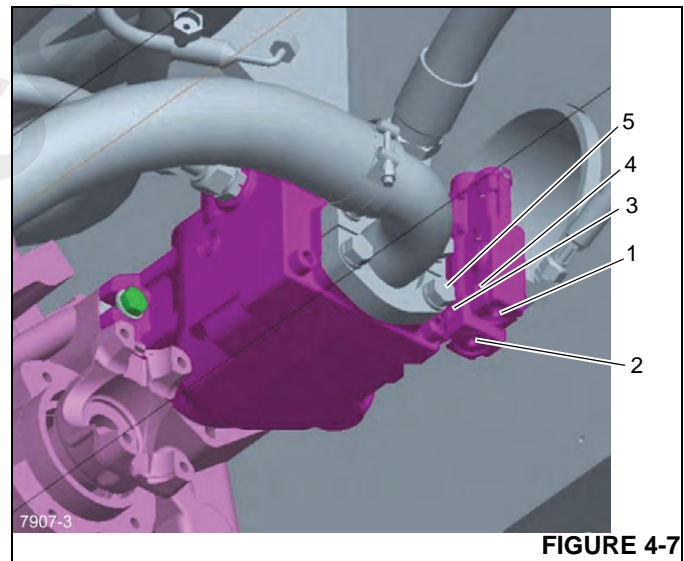

FIGURE 4-7
4. Disconnect the hydraulic hose from bulkhead elbow Figure 4-7 which connects to the rod port of the telescope cylinder. A little oil will drain from the elbow.
4. If pressure is incorrect, loosen the margin set screw from the pump compensator valve (4, Figure 4-7). A 4 mm hex wrench is required for the set screw.
5. Adjust the margin pressure setting by turning the margin adjusting screw (1, Figure 4-7) until  $24.13 \pm 0.35$  bar ( $350 \pm 5$  psi) pressure is obtained on the gauge; clockwise increases pressure, counterclockwise reduces the pressure. A 6 mm hex wrench is required for the adjusting screw.
- a. Remove the bolt on the suction hose split flange by the compensator set screw (5, Figure 4-7).
- b. Loosen the set screw from the pump compensator valve (3, Figure 4-7). A 4 mm hex wrench is required for the set screw.
- c. While engaging the boom down function with the engine at full throttle, adjust the pump max pressure setting by turning the compensator adjusting screw (2, Figure 4-7) until  $289.58 \pm 3.45$  bar ( $4200 \pm 50$  psi) pressure is obtained on the gauge; clockwise increases pressure, counterclockwise reduces the pressure. A 6 mm hex wrench is required for the adjusting screw.
During normal operation the solenoid valves are in the closed (energized) position (Figure 4-7). In the closed position oil under pressure is stopped by the solenoid valve from returning to tank. The blocked fluid under pressure passes through a restriction in the valve section to the check valve. The check valve is held closed by a combination of the check valve spring and oil pressure from the closed solenoid valve. In combination, the oil pressure and spring pressure is greater than the return oil pressure and the check valve is kept closed. Return oil is then directed through the valve spool to the outlet port of the control valve.